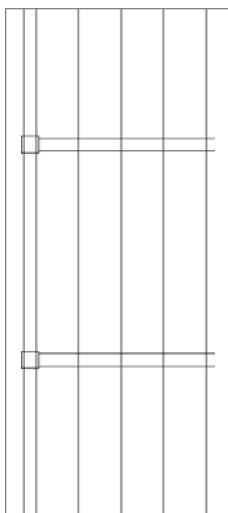

FIGURE 5.27 The stairs created using the ARRAY command
11. Assuming the preview looks like Figure 5.27, press ↴ to accept the array. The ARRAY command will end, and your stairs will be drawn.
If the preview does not match Figure 5.27, press the Esc key to return to the Array dialog box. From there you can review the values specified in step 9.